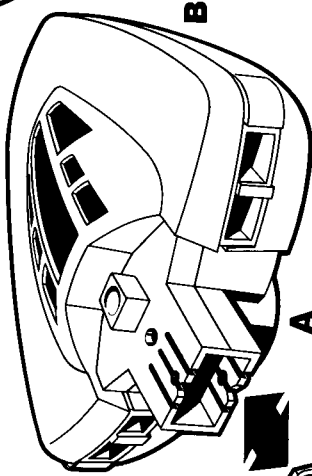

FIG. 6
2. Remove the **Power Thruster Engine (H)** from the main body and slide engine onto the back of the energy module until it clicks. (See FIG. 6)